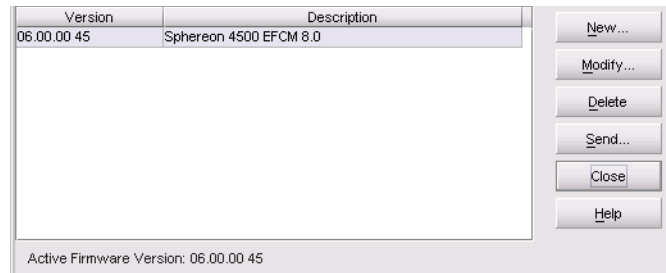

Figure 4-31 Firmware Library Dialog Box
3. Select the *Firmware Library* option from the *Maintenance* menu. The *Firmware Library* dialog box displays (Figure 4-31).